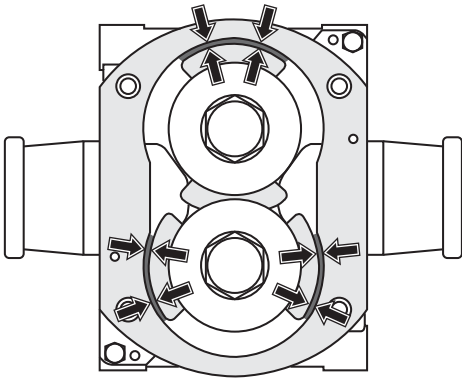

Fig. 26 Measuring radial clearance
1. Measure the clearance between the rotor and the pump casing with a feeler gauge, see Fig. 26, "Measuring radial clearance," page 22.